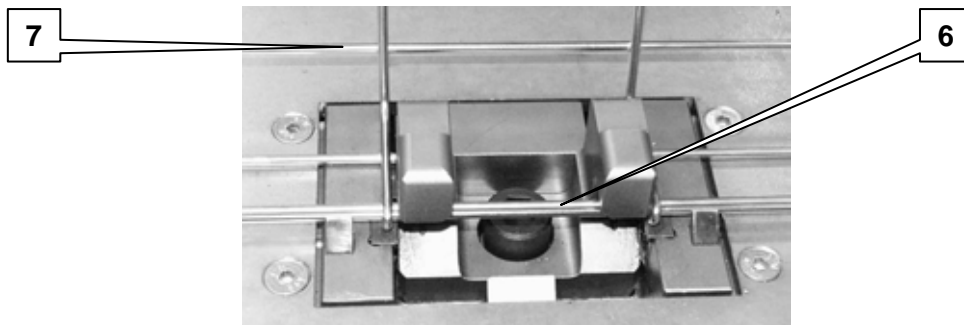

Fig. 4.23 – Next cut
8. insert and cut the next lateral wire of the front side **6** by pushing forward the gangway **7** (fig. 4.23); if the side is made with only one wire see the next point;